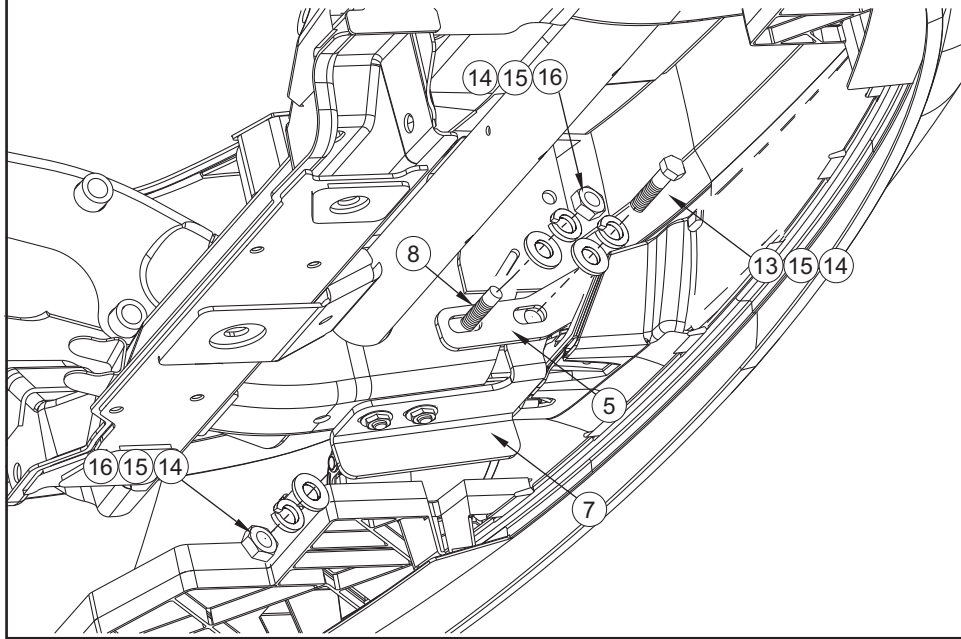

FIGURE 5
- STEP 6. Attach Sportsman to brackets using 1/2" stainless steel fasteners. **SEE FIGURE 5.** Center and level Sportsman on vehicle and tighten all fasteners. Recommended torque values are 43 Ft.Lbs. for 1/2" stainless steel fasteners and 64 Ft.Lbs. for 1/2" yellow zinc fasteners.